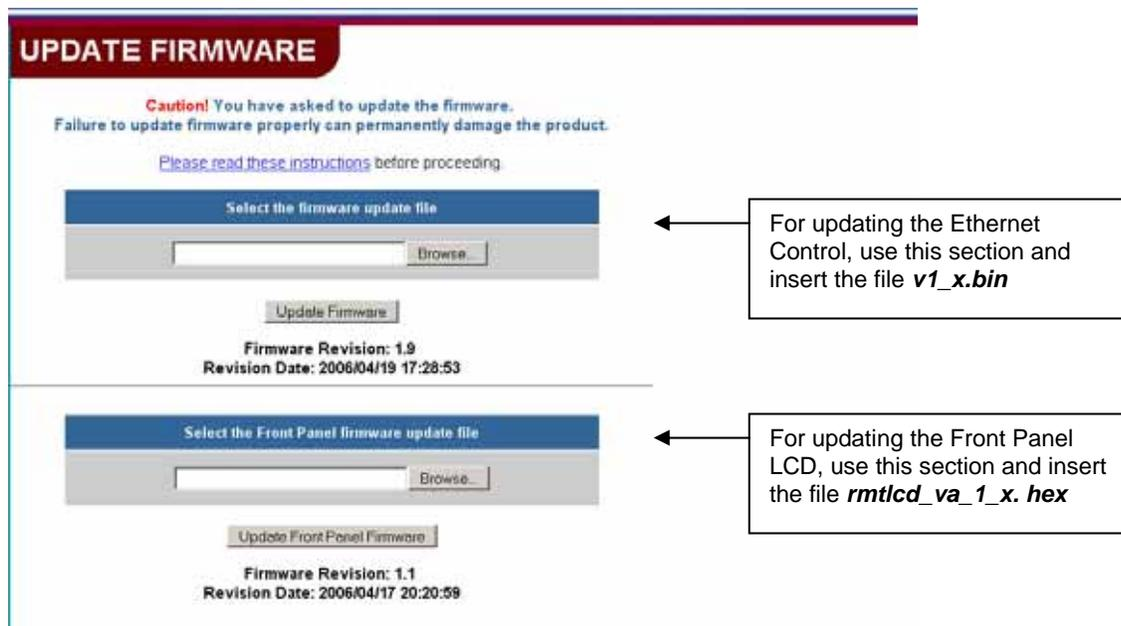

Figure 15- Web interface Update Firmware page
1. Contact NTI for the latest firmware file (see Fig. 15) and copy it to your computer.